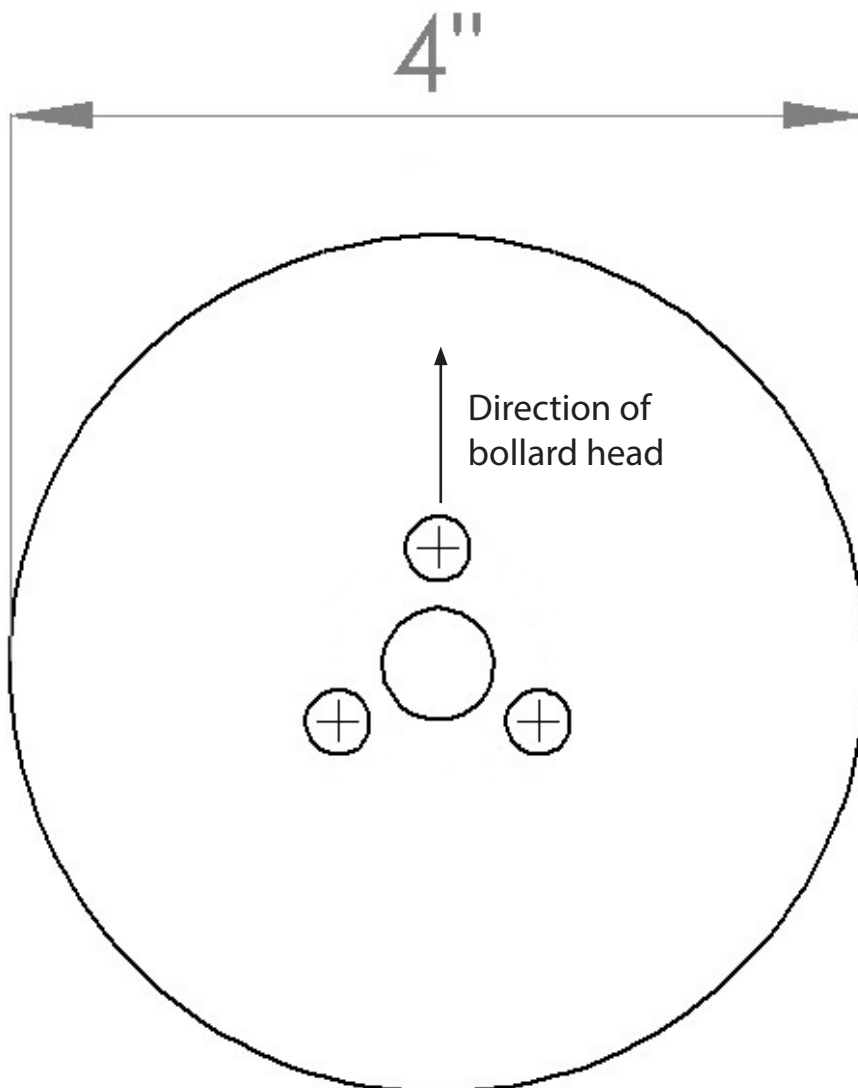

Fig. 1
2. Install a 12VAC output magnetic transformer in an accessible location, and run low voltage outdoor power cable (A) from the transformer to the desired bollard location in accordance with local codes. To avoid excessive voltage drop, you must use power cable with appropriate wire gauge for the distance and load of your system. The REALS bollards can accept an input voltage from 10 to 15VAC.
3. **For Concrete Mounting:** Using the provided temporary template (Fig. 1), cast the anchor bolts (B) and low voltage outdoor power cable (A) into a concrete footing (C). Arrange the anchor bolts so that they are vertical and form an arrow pointing in the desired direction of the fixture (D), with at least 1/2" of threaded and no unthreaded length exposed above the concrete. Arrange the power cable so that it is in the center of the template, with at least 6" of cable exposed above the concrete.
4. **For Concrete Mounting:** Once the concrete (C) has fully cured, remove and discard the template.
5. **For Concrete Mounting:** Place mounting plate (E) over the anchor bolts (B) and power cable (A). Secure with mounting nuts (F).